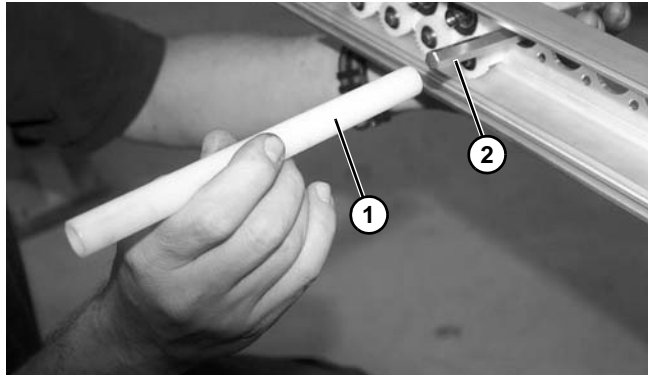

Figure 32
15. Remove shaft cover (Figure 32, item 1) and shaft (Figure 32, item 2) from the conveyor frame.